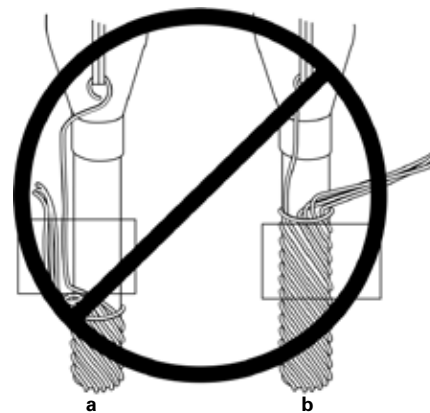

Figure 3. Incorrect methods of concentric neutral primary cable preparation
Some installations of improper preparation of the primary cable will result in an inoperable FCI (see Figure 3a and 3b). The magnetic field, due to current in the center conductor, will be cancelled by the current in the concentric neutral wires. **DO NOT PREPARE THE PRIMARY CABLE IN ACCORDANCE WITH THE METHODS SHOWN IN FIGURE 3!**
1. **Punch or drill** four 0.5" (13 mm) and one 1.75" (45 mm) holes as shown in Figure 3. Hole rims may need to be treated for corrosion resistance. Consult enclosure manufacturer for recommendation.